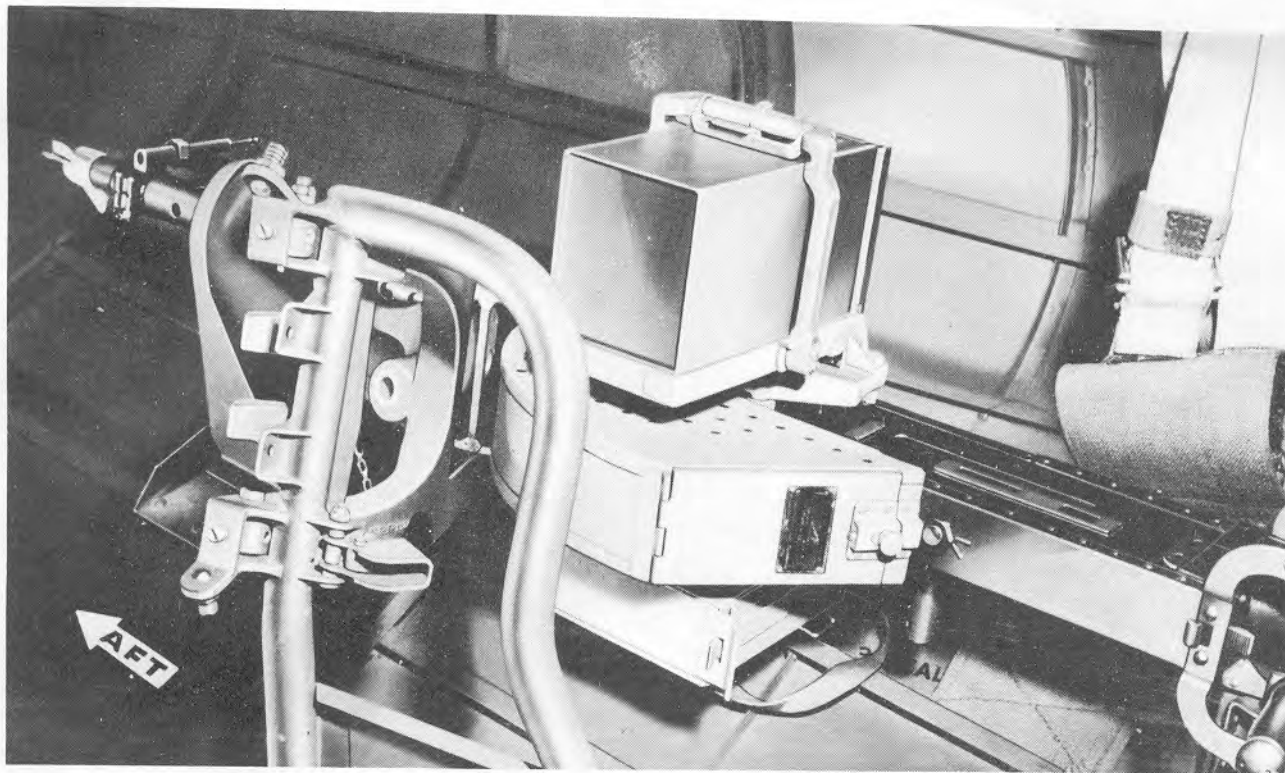

Figure 56—Tunnel Gun—Stowed
(2) To place the gun in stowed position: (See figure 56.)